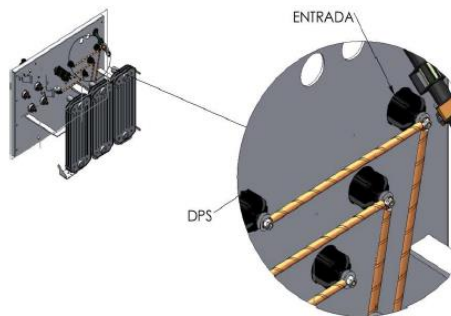

Figure 10. Internal connection of the bushings that externally house the elbow and the elbow type DPS.
**NOTE:** the previous one is only a recommendation, for the logical arrangement of the accessories, (ease of access to the support for the parking hub) however it is the end user who decides for convenience of the connection where to locate the elbow and its respective DPS, since inside the cabinet these points are the same, as shown in Figure 10.